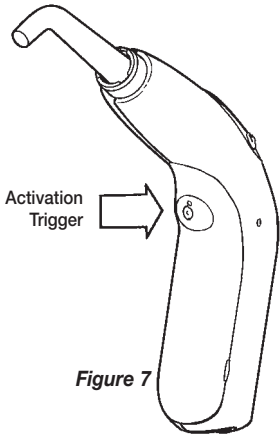

Figure 7
- Starting the Curing Cycle:** Pressing the raised button in the trigger position of the handpiece (Figure 7) activates the SmartLite iQ2 unit. At the start of any curing cycle a single audible tone will sound; at the end of the cycle the curing LED will turn off automatically and a double audible tone will sound.